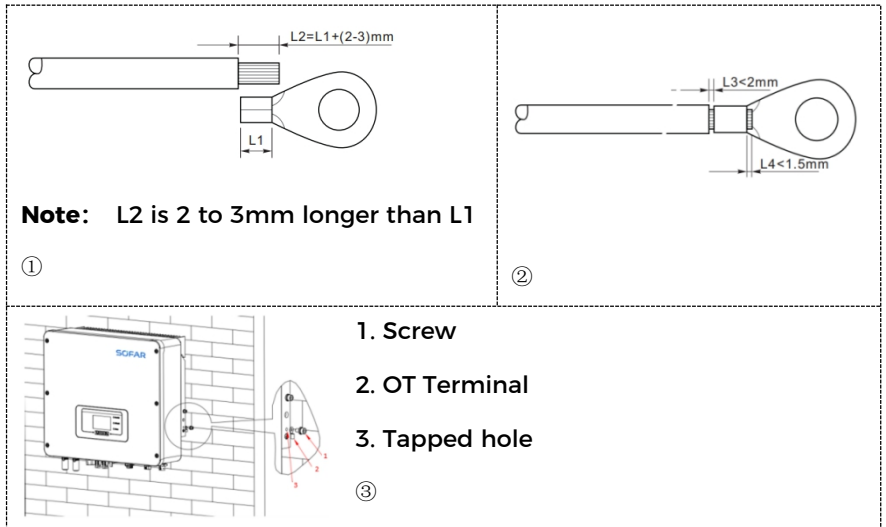

Fig. 4-1 Connecting PGND cable
Step 1 Remove the insulation layer with an appropriate length using a wire stripper, as shown in Fig. 4-1 ①.
Step 2 Insert the exposed core wires into the OT terminal and crimp them by using a crimping tool, as shown in Fig. 4-1 ②.
Step 3 Install the crimped OT terminal, flat washer using M5 screw, and tighten the screw to a torque of $3\text{N}\cdot\text{m}$ using an Allen wrench, as shown in Fig. 4-1 ③.